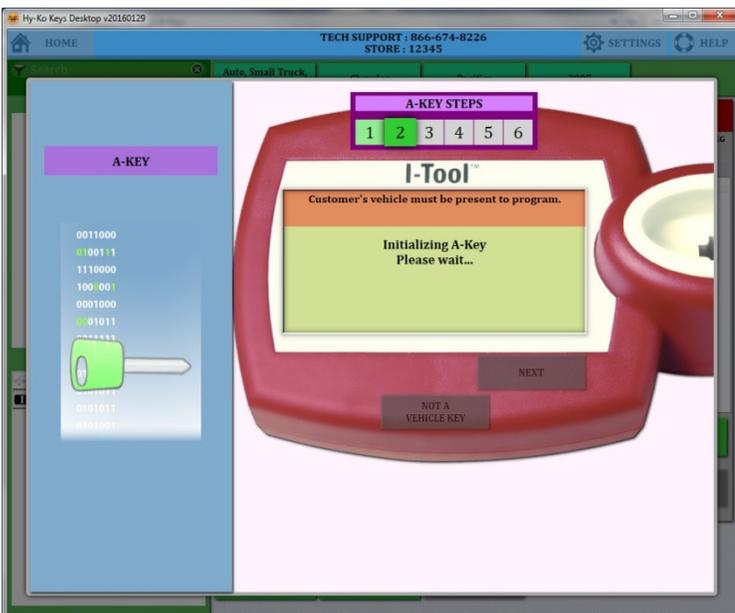

fig. 86
- The I-Tool will begin the process by initializing the new A-Key. This preps the key to be programmed (see fig. 86).